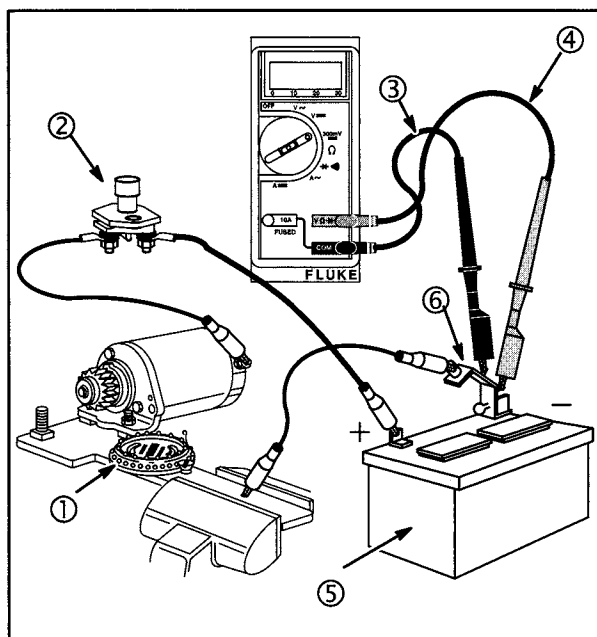

Fig. 51
2. Clamp test bracket in vise, **Fig. 51**.
3. The DC Shunt (6) **MUST** be installed on the **NEGATIVE (-)** battery terminal as shown in **Fig. 51**.
4. Insert **RED** test lead (4) into **VΩ** receptacle in meter. Connect to **RED** post terminal on shunt.
5. Insert **BLACK** test lead (3) into **COM** receptacle in meter. Connect to **BLACK** post terminal on shunt.
**NOTE:** If an optional starter switch (2) is **NOT USED** connecting the **POSITIVE** lead will activate the starter motor.
8. Activate the starter motor. Note reading on meter and RPM on tachometer (1).